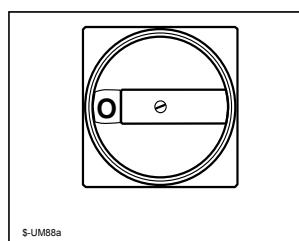

Fig. 5.1
To switch off the power supply, turn main switch A (fig.5.1) to the zero (0) position and lock it with a padlock
WARNING: During cleaning operations, make sure that the power supply is switched off: turn main switch A (fig.5.1) to the zero (0) position and lock it with a padlock.